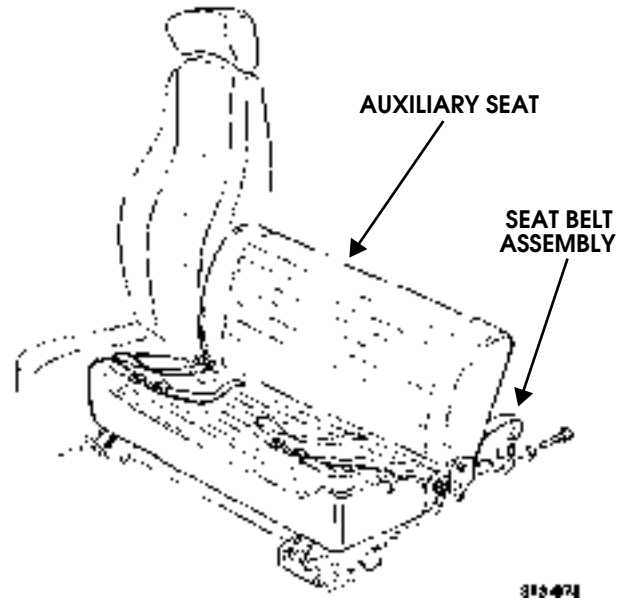

Figure 13-60: Auxiliary Seat Belt
2. Remove four bolts, washers, and two auxiliary seat belt assemblies from auxiliary seat (Figure 13-60).
1. Install two auxiliary seat belt assemblies on auxiliary seat with four washers and bolts (Figure 13-60). Torque to 72-78 ft-lb (98-106 N•m).